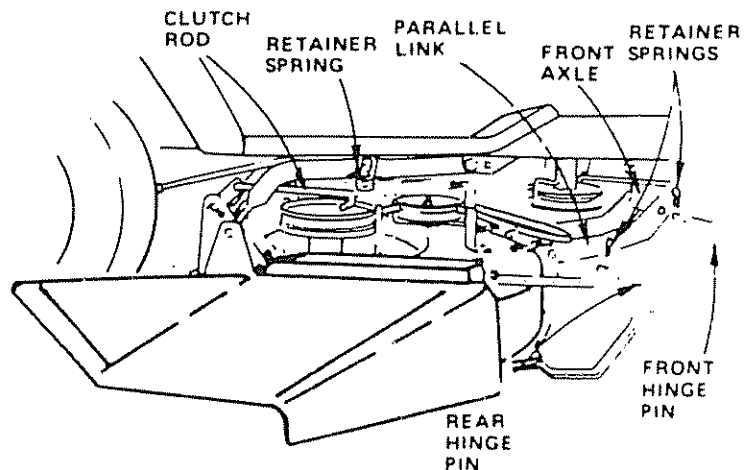

FIGURE 29
- Install front hinge pin through axle and parallel link (Fig. 29). Secure with retainer spring.
- Install rear hinge pin through mower lift brackets and parallel link (Fig. 29). Secure with retainer spring.
- Install clutch rod in clutch lever (Fig. 29).